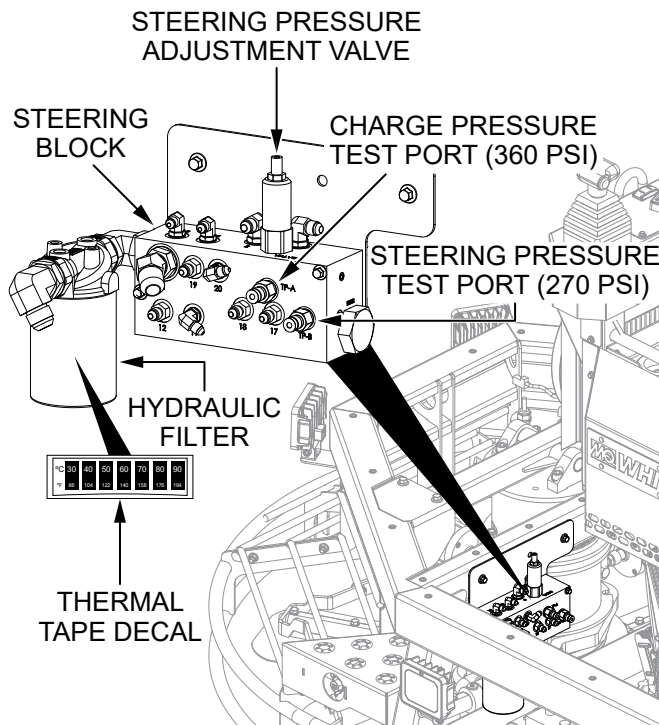

Figure 38. Steering Block Charge Pressure And Steering Pressure Components
Check the charge pressure at the **charge pressure test port** (Figure 38) on the **steering block**. Access the steering block below the platform at the front of the trowel, beneath the foot pedal.
2. Using a Parker PD242 diagnostic test port coupler, connect a 300–600 psi pressure test gauge to the **charge pressure test port** (Figure 38) on the **steering block**.
5. Allow the hydraulic system to warm up to 140°F (60°C). Hydraulic temperature is indicated by the **thermal tape decal** (Figure 38) on the **hydraulic filter**.
Check the steering pressure at the **steering pressure test port** (Figure 38) on the **steering block**. Access the steering block below the platform at the front of the trowel, beneath the foot pedal.
3. Using a Parker PD242 diagnostic test port coupler, connect a 300–600 psi pressure test gauge to the **steering pressure test port** (Figure 38) on the **steering block**.
6. Allow the hydraulic system to warm up to 140°F (60°C). Hydraulic temperature is indicated by the **thermal tape decal** (Figure 38) on the **hydraulic filter**.
2. Remove the protective cap on the **steering pressure adjustment valve** (Figure 38) and adjust the steering pressure as needed. Replace the protective cap and reinstall the front platform when finished.